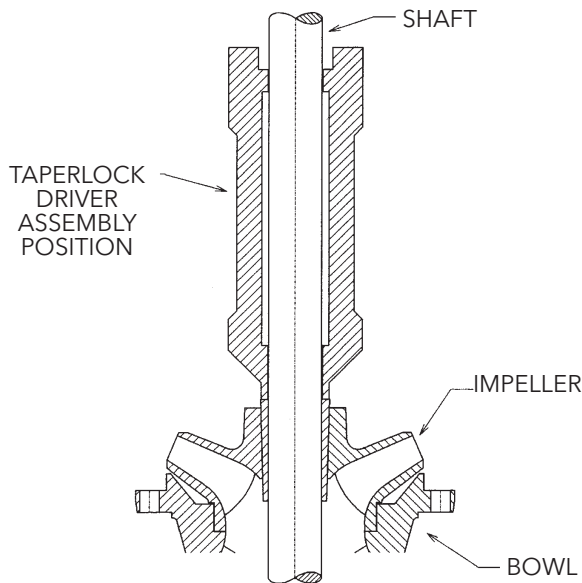

Figure 5 – Install the Impeller
D. Hold impeller firmly against the motor adapter and drive the taperlock into place with the taperlock driver. See Figure 5. After the impeller is secured in position, the top end of the taperlock should be 1/8" above the impeller hub.